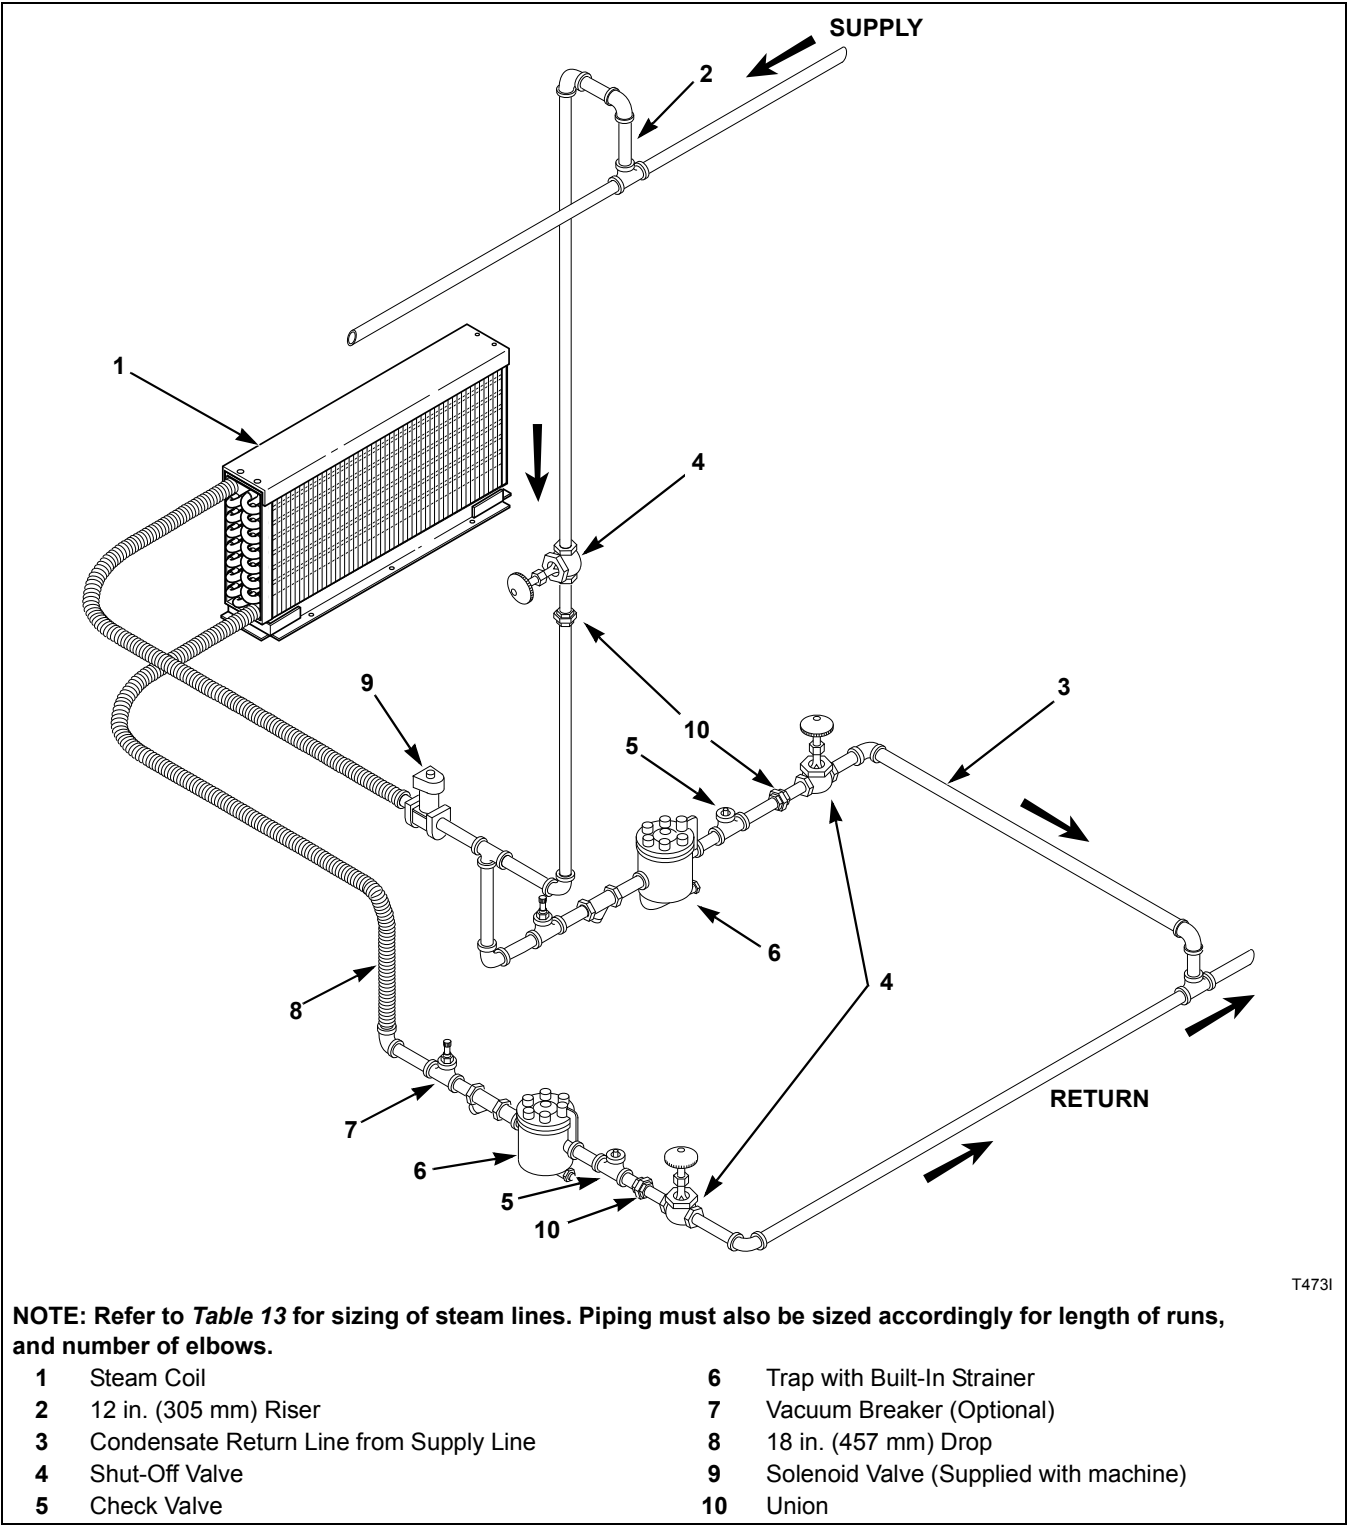

Figure 15
- Refer to *Figure 15* for proper steam pipe configurations.
The steam trap must be installed and the coil outlet connections must be connected to the condensate return lines. The following steps outline the procedure for installing the steam trap and connecting the condensate return lines. Refer to *Figure 15* for typical installations.